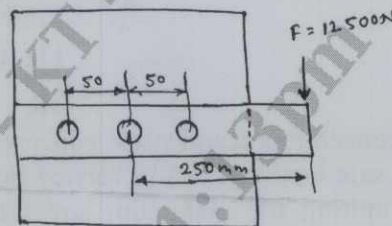

Fig. Q7 (b)
- b. Find the diameter of the rivet as shown in Fig. Q7(b). The maximum shearing stress on the most heavily loaded rivet is 56 N/mm². (10 Marks)